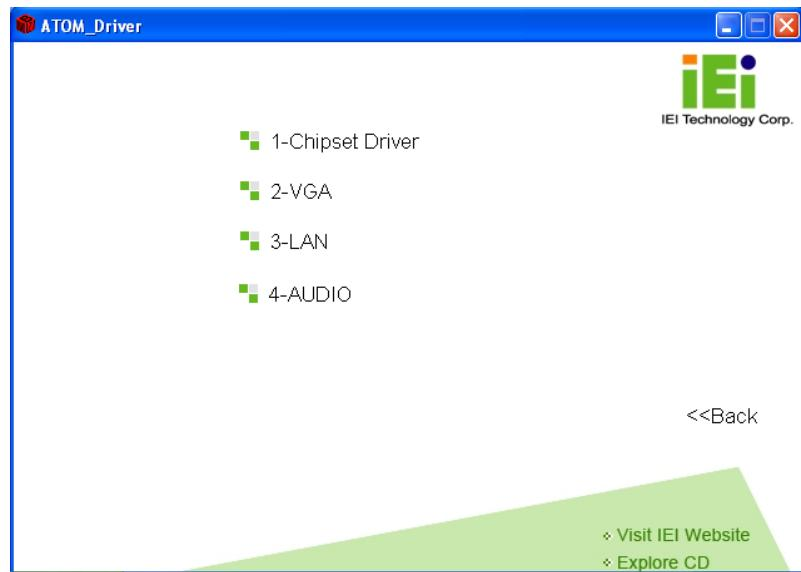

Figure 6-1: Drivers
Step 2: The list of drivers in **Figure 6-1** appears.
Step 1: Access the driver list shown in Figure 6-1. (See **Section 6.2**)